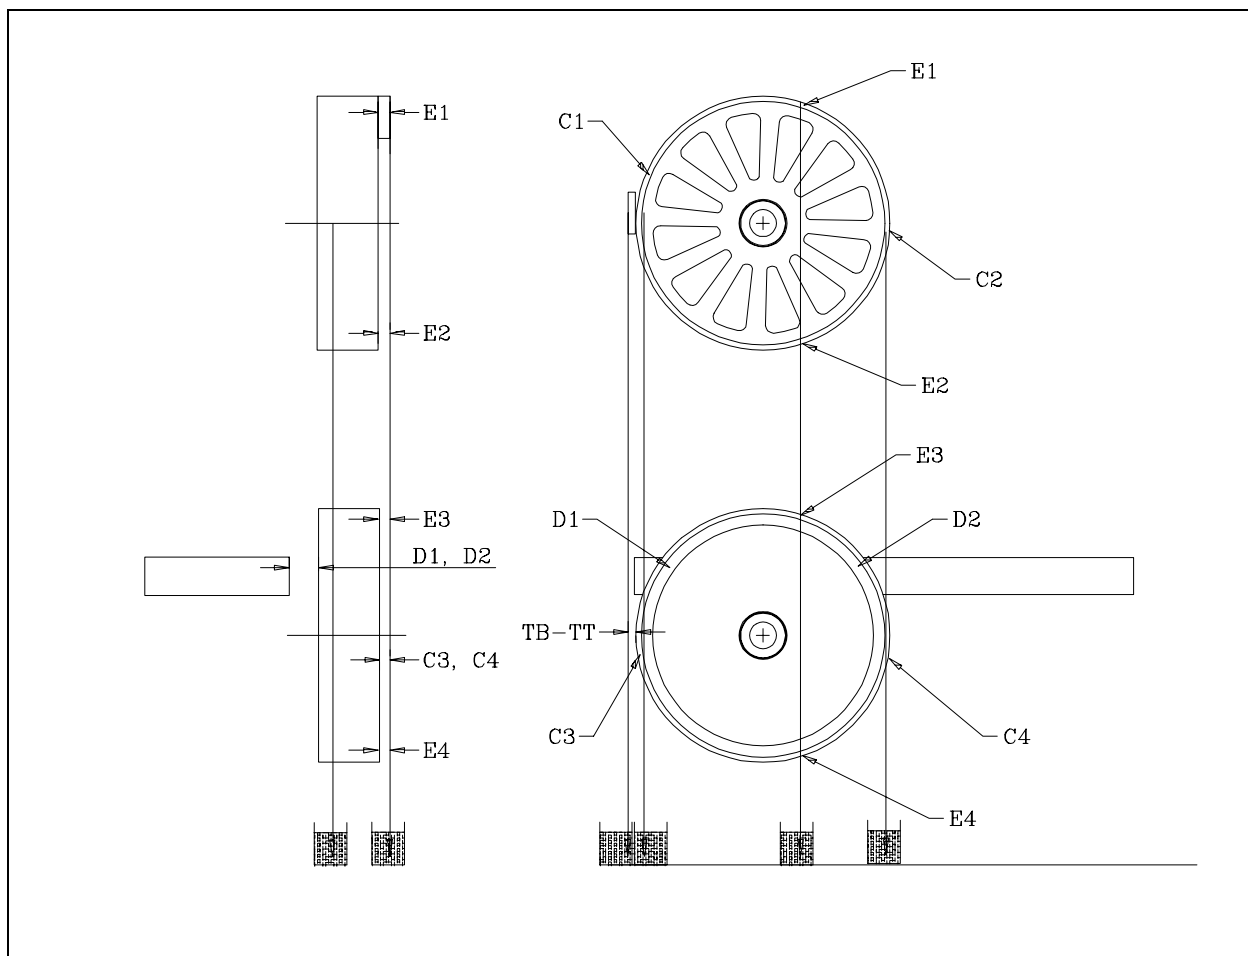
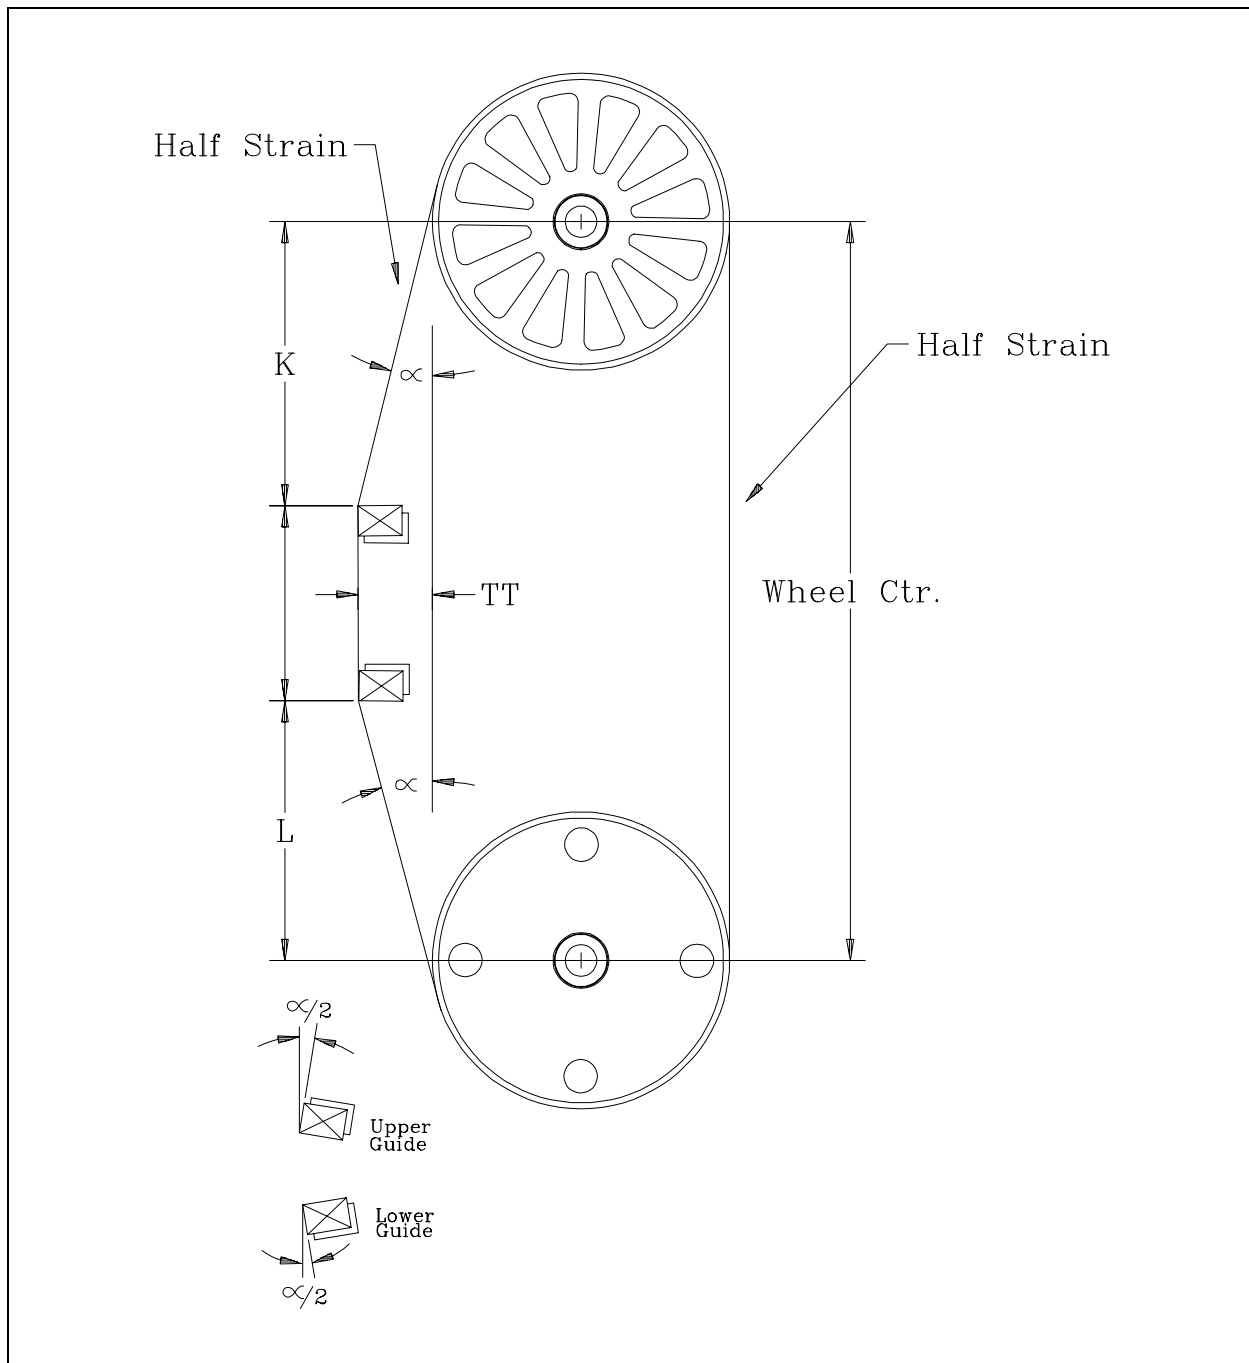

Figure 12: Preliminary Alignment: Lower Wheel
Figure 13: Aligning Sawguides
(Refer to Figure 12: Preliminary Alignment: Lower Wheel and Figure 13: Aligning Sawguides)
(Refer to Figure 12: Preliminary Alignment: Lower Wheel, page 28).
10. In the following steps the saw guide blocks are tilted very slightly moving the face of the guide block from a true vertical position. This is done to ensure total saw guide face contact with the saw. This is necessary when using pressure guides due to the slight bend created in the saw blade at the saw guides. (Refer to Figure 13: Aligning Sawguides, page 30).
- F. Each saw guide block is the correct distance from its respective wheel. (Refer to Figure 13: Aligning Sawguides, page 30).